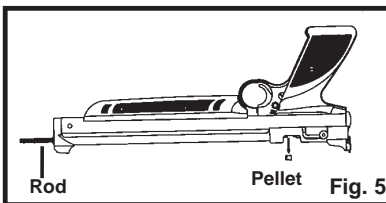

Fig. 5
- With the bolt in the open position, insert a ramrod in to the muzzle end of the barrel and gently push the jammed pellet in to the pellet loading port (forward of the bolt). (Fig 5)